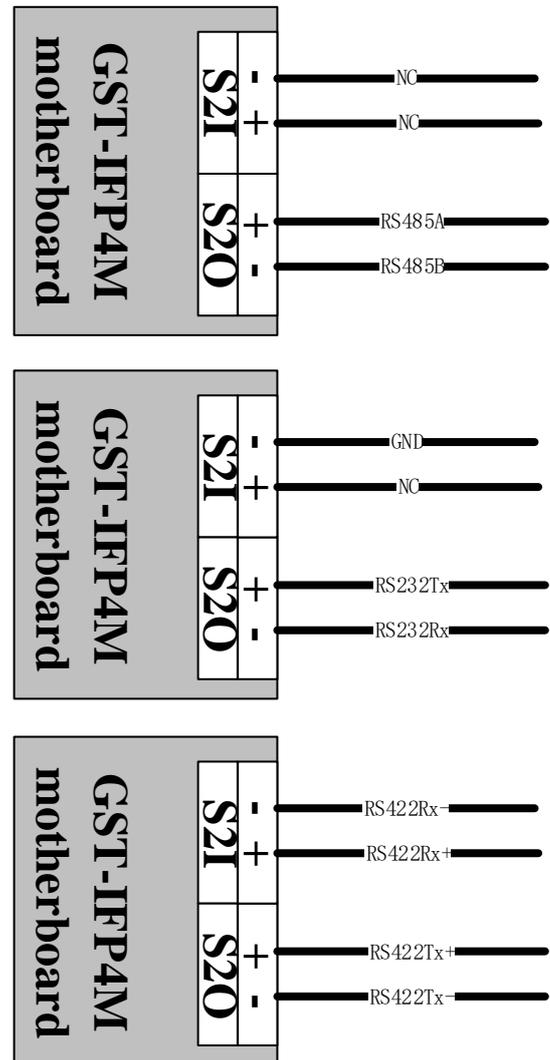
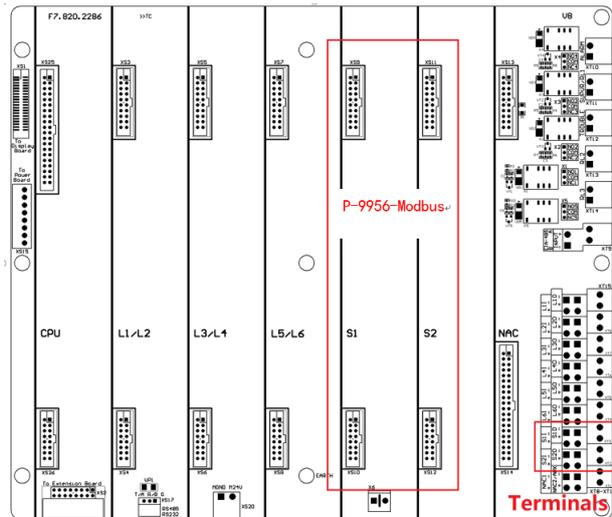

Fig. 1
Fig. 2
- ✧ A P-9956-Modbus can connect with third party devices through RS485, RS422 or RS232. A panel connects up to two P-9956-Modbus cards. Refer to Fig. 2 for installation position.
Its connection is shown in Fig. 1 as P-9956-Modbus is inserted in S2 slot.
P-9956-Modbus is inserted into mother board slots of the control panel as shown in Fig. 2. Connection with the third party devices is shown in Fig. 1.
Messages cannot be transmitted.	<ol style="list-style-type: none"> 1. Check if the communication is normal according to status of LED HL1 and HL2. 2. Check if the connection is correct according to Fig. 1. 3. Check addresses of control panels in turn.